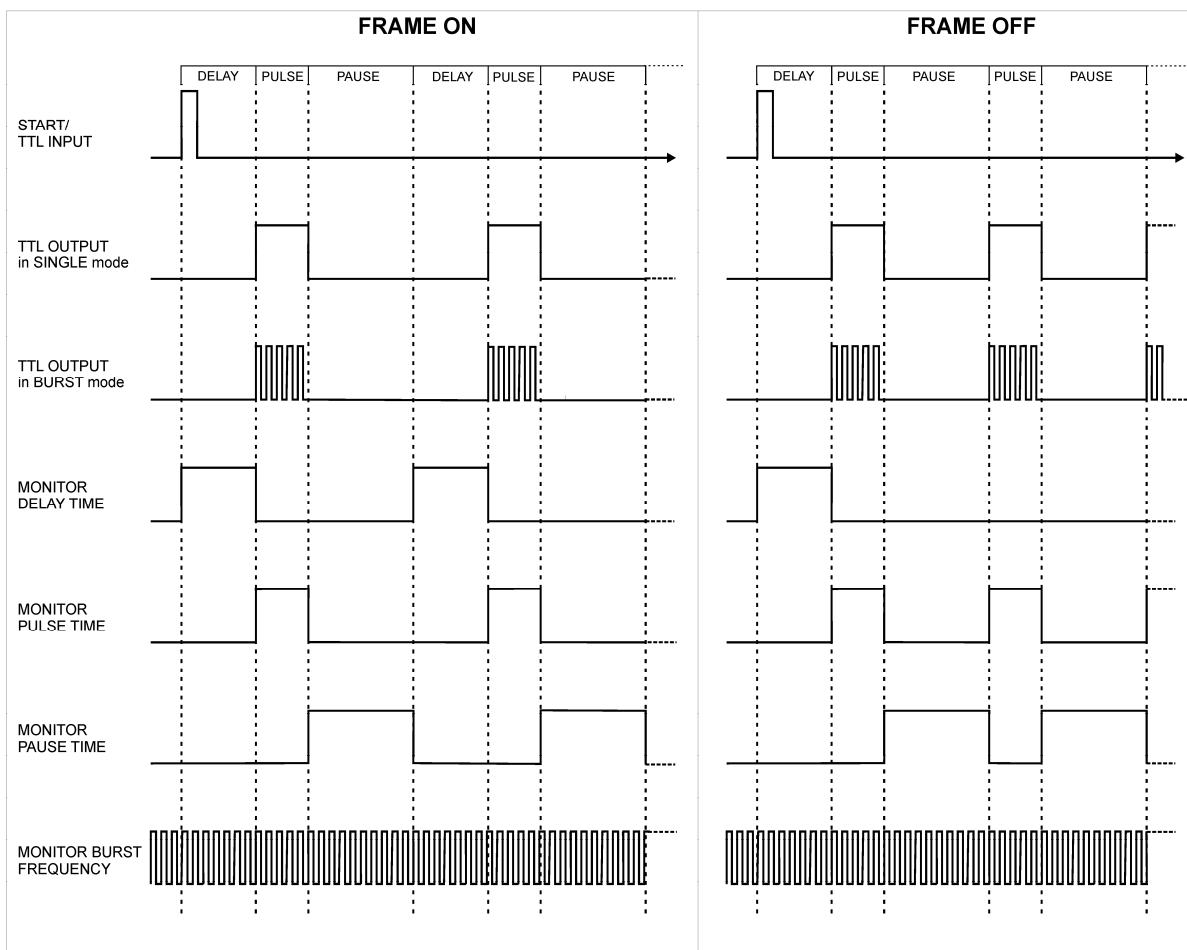

Figure 2: TTL pattern as generated by the TMR-01B and put out at the described outputs.
**12: MONITOR PAUSE TIME:** this output will be TTL HIGH during the PAUSE time (see Figure 2).
**BURST COUNTED:** during the PULSE period (see Figure 2), a burst will be given to the output. The number of pulses during this burst will be selected by PULSE decade switch (#6). I.e. the time burst time depends on burst frequency and number of single pulses (see Figure 2). For setting the number of burst, only the first three digits will be active.
**BURST TIMED:** during the PULSE period (see Figure 2), a burst will be given to the output. The duration of this burst will be selected by PULSE unit (#5 + #6). I.e. the number of single pulses during a burst depends on burst frequency and burst duration (see Figure 2).
**14: MONITOR PULSE TIME:** this output will be TTL HIGH during the PULSE time (see Figure 2).
**17: MONITOR DELAY TIME:** this output will be TTL HIGH during the DELAY time (see Figure 2).